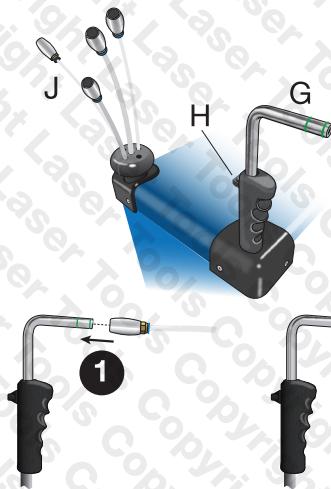

Fig 3
2. Refer to Figure 3: On the oil extraction hose attachment (G), ensure the ON/OFF valve (H) is in the OFF position.